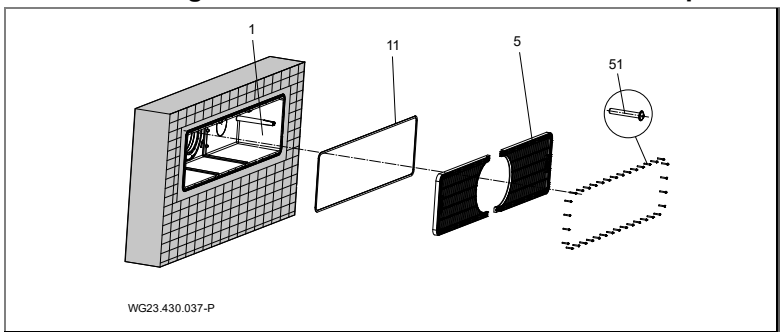

Fig. 8
It is recommended to lay a surrounding ring of epoxy resin/quartz sand at the pool-side outside wall of the housing (1) as a seal to the concrete wall. See "Fig. 8" on page 23